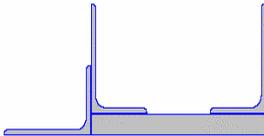

Fig. 65 *Position of the third angle after processing Add command*
- press the **Add** button; the angle will be positioned as shown in Fig. 65